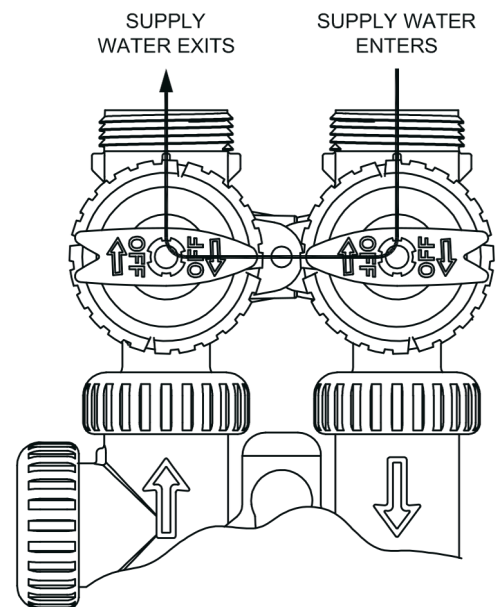

figure 3
1. With all plumbing connections made, make sure the bypass is in the "bypass" position (see *figure 3*). Slowly turn on the water supply valve until lines are pressurized. At a nearby faucet, turn on cold water and let it run for 2 - 3 minutes to flush debris (solder, pipe tape, glue, etc.) from the plumbing. Check for water leaks. If any leaks are found, repair them immediately before proceeding. 2. After confirming no leaks exist, proceed to start up instructions on page 20.